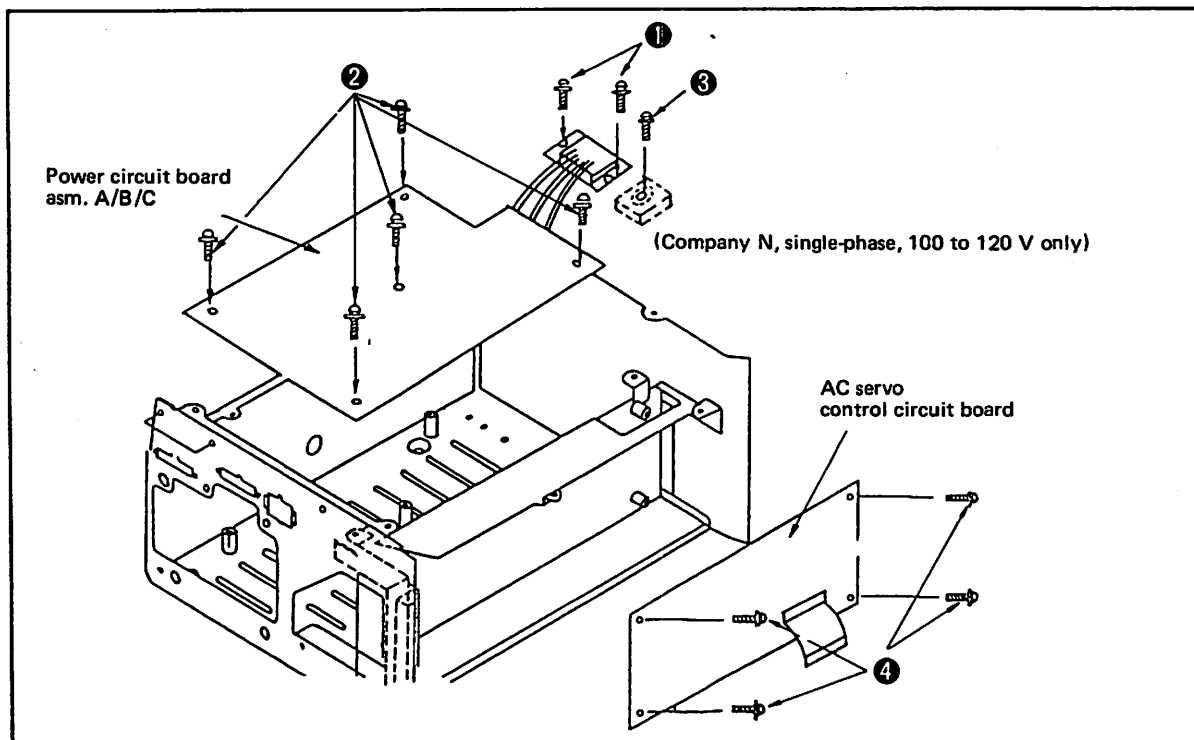

Fig. 5-20
- (4) Next, remove the 4 circuit board setscrews (Fig. 5-20 ④) (M4 x 8) and replace the circuit board by a new one.
- (5) Complete the replacement by reassembling in the reverse order of disassembly.